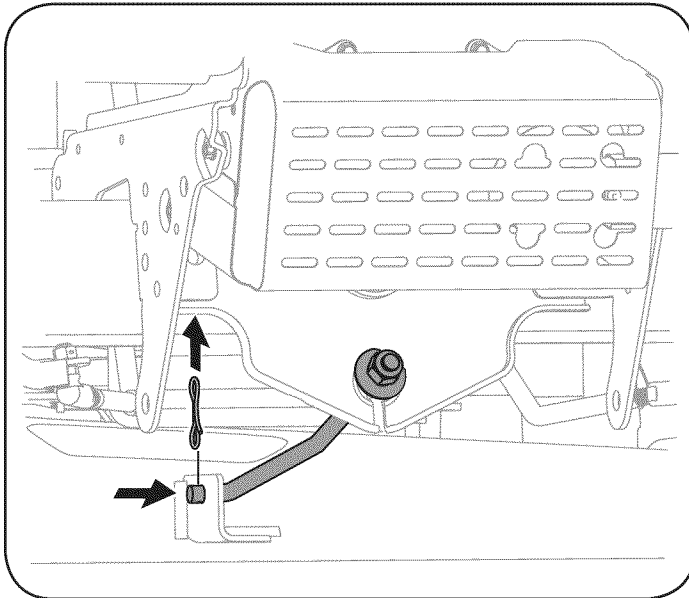

Figure 24
- Remove the bow-tie cotter pin securing the deck stabilizer rod to the deck. Slide the deck lift rod from the mounting bracket on the deck as shown in Figure 24.